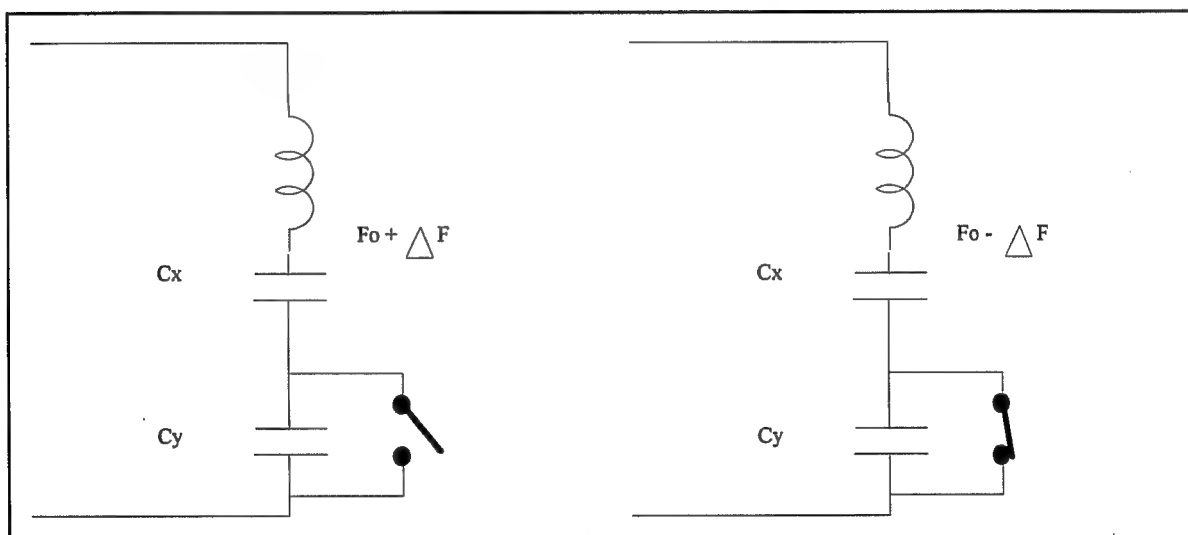

Figure 2 - oscillator
- tuning at $F_0 + \Delta F$ is provided by two capacitors mounted in series as shown on the simplified diagram below. $F_0 - \Delta F$ is obtained by shorting capacitor C_y (fig.2).